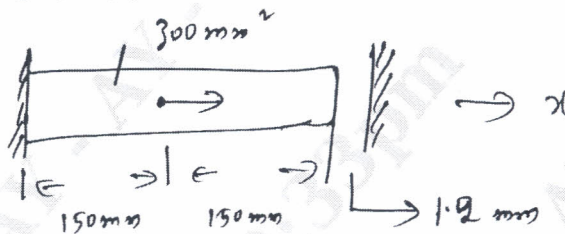

Fig Q10(b)
- b. A bar is having uniform cross sectional area of 300 mm^2 and is subjected to a load $P = 600 \text{ kN}$ of shown in Fig Q10 (b).